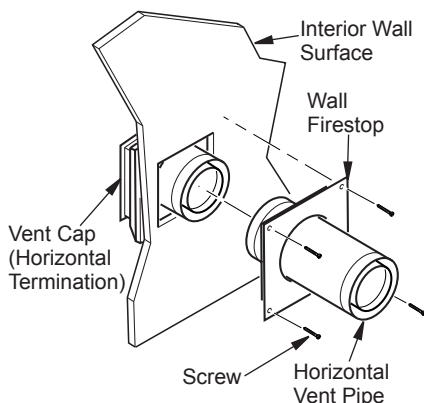

Figure 13 - Connecting Vent Cap with Horizontal Vent Pipe
- Connecting Vent Cap with Horizontal Vent Pipe:** Slide wall firestop over vent pipe before connecting horizontal run to vent cap (see Figure 13).